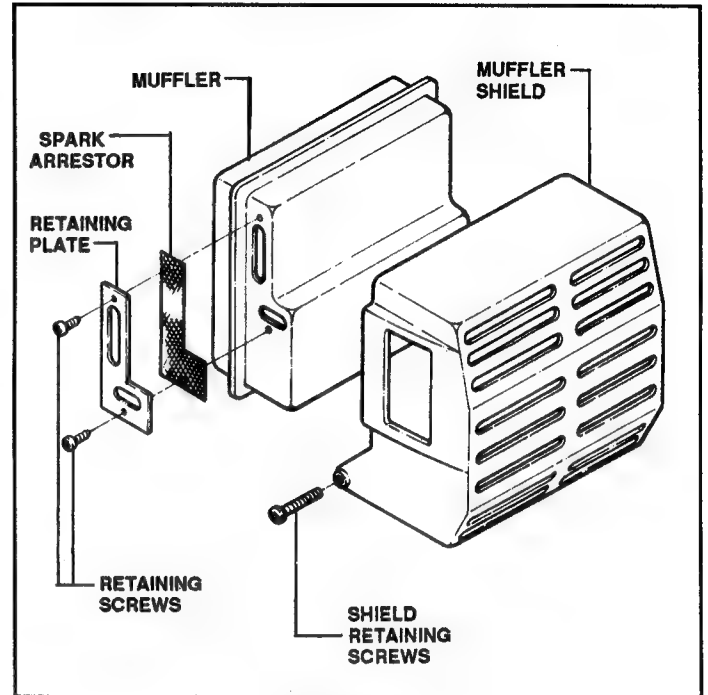

FIGURE 29
2. Recalling that the one shield retaining screw was removed with the starter, remove the last two screws to remove the shield. See Figure 29.